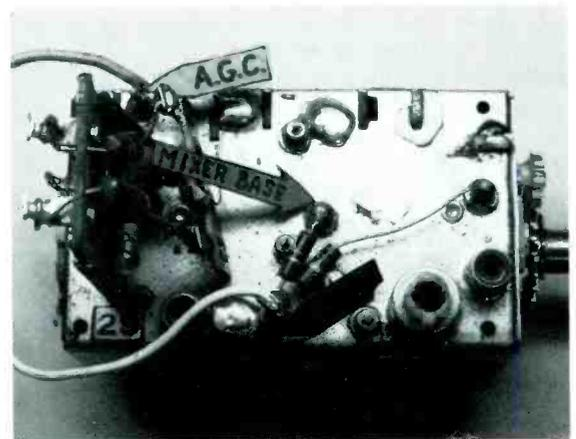

Fig. 3 Leads of mixer transistors often connect to feedthrough capacitors. Test signals can be injected there, and DC voltages measured.
Mixer base connections often are tied to feed-through capacitors, making them accessible from the outside, as shown in Figure 3.
Fig. 3 Analysis of square waves can show the approximate high-frequency response. Waveform (A) is the output of an audio generator (B&K Model E-310B); (B) an amplifier, whose response was only -0.5 dB at the 9th harmonic and -2 dB at the 50th, rounded two corners and made the rise and fall sides barely visible (in the original picture); (C) 9th harmonic was -0.8 dB and 50th was -0.7 dB; (D) 9th harmonic was -1.8 dB and 50th was -1.2 dB; and (E) 9th harmonic was -0.9 dB and 50th was -2.4 dB. The rising edge now resembles the classic capacitor-charge curve, and the falling side approaches the capacitor-discharge curve.
There is no universal agreement among audio experts about how many harmonics represent a satisfactory square wave. Perhaps the waveforms of Figure 3 will prove that a generator with sharp square